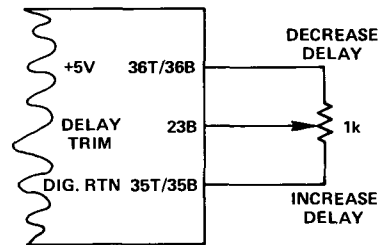

Figure 10. Delay Trim
The DLY OUT signal may be adjusted to vary the A/D converter triggering time by means of the external circuitry shown in Figure 10. An open DLY TRIM terminal (Pin 23B) results in a nominal delay time of 3.0 μ s. A grounded DLY TRIM terminal (for highest-accuracy) results in 20 μ s delay time nominal.
- (1) **NORMAL** (input channel remains selected during its A/D conversion). Connect Pin 23T (DLY OUT) to Pin 27T (TRIG).
- (2) **OVERLAP** (next channel is selected during A/D conversion). Connect Pin 27B (EOC) to TTL compatible inverter input. Connect inverter output to Pin 24T (STROBE). Connect Pin 23T (DLY OUT) to Pin 27T (TRIG). Adjust the delay to at least $4\mu\text{s}$ greater than $\overline{\text{EOC}}$, $20\mu\text{s}$ max (see Figure 10). The signal on Pin 26T (TRIG) serves as RUN/STOP control.
- (3) **REPETITIVE SINGLE CHANNEL.** After selecting the input channel to be repetitively sampled (see MUX ADDRESS MODE, above), set Pin 27T (TRIG) to Logic "0". Connect Pin 26T (TRIG) to a triggering source. Conversion process is initiated by positive edge of TRIG command.